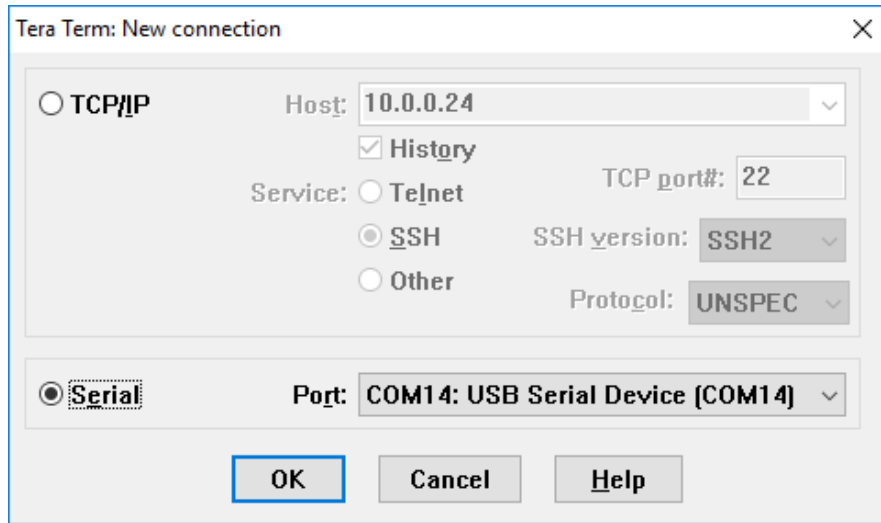

Figure 4-3 Com Power Selection
3. Then launch the TeraTerm application, then select the serial and select the correct COM Port and select “OK”. (See Figure 4-3)